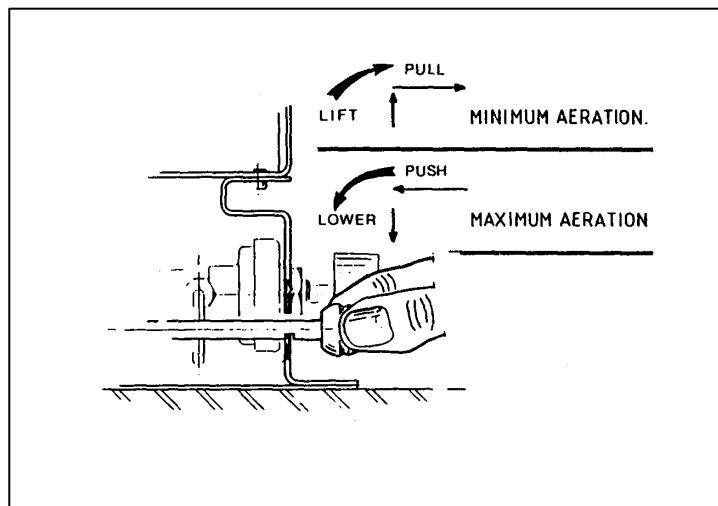

Figure 10
- Allow the appliance to warm up, (for at least fifteen minutes) in the fully aerated position, with the control lever pushed in to the locked position – see figure 10.